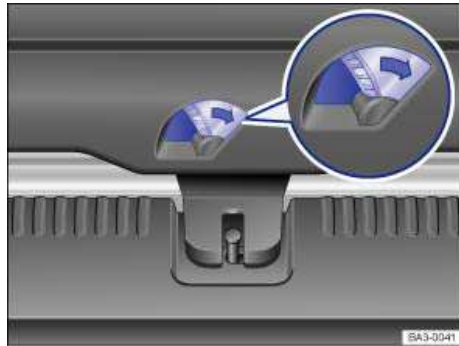

Fig. 200 Inside the luggage compartment: Unlocking the luggage compartment lid.
- Push the lever in the direction of the arrow ⇒ fig. 200. The luggage compartment lid opens automatically. At temperatures under +32 °F (0 °C), you may have to push the luggage compartment lid open manually.